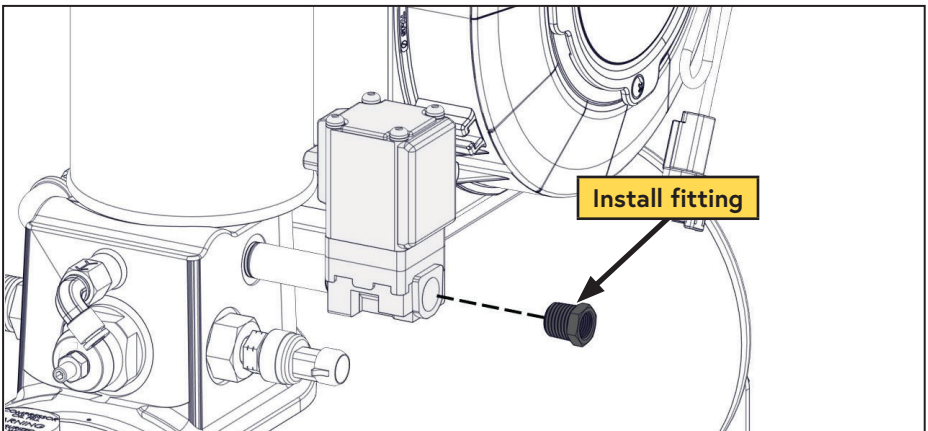

Figure 30 — Install fitting
- Apply Loctite 567 (thread sealing) compound to the supplied fitting and install it into the blowdown solenoid (Figure 30).